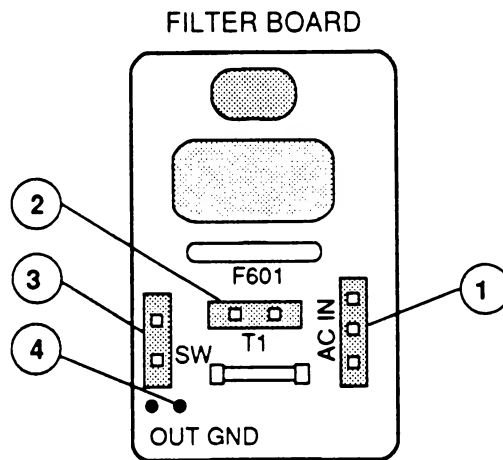

**FIGURE 8**
- AC IN (Figure 8, #1)
- T1 (Figure 8, #2)
- SW (Figure 8, #3)